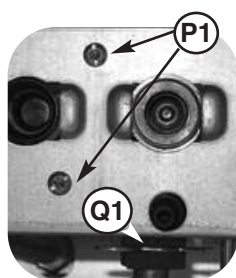

Fig. 84
2. Remove the clip "Q1" from the by-pass tube (Fig. 84);
4. Remove the two screws "P1" (Fig. 84);